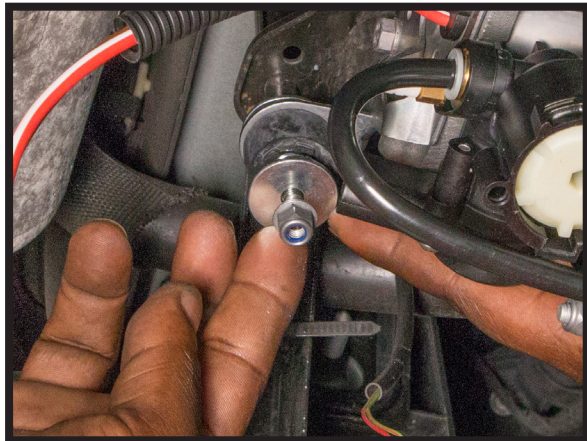

FIGURE 16
4. INSTALL THE NUTS ONTO THE SPRING WASHERS AND TIGHTEN TO MANUFACTURER'S SPECIFICATIONS. (FIGURE 16, 17)